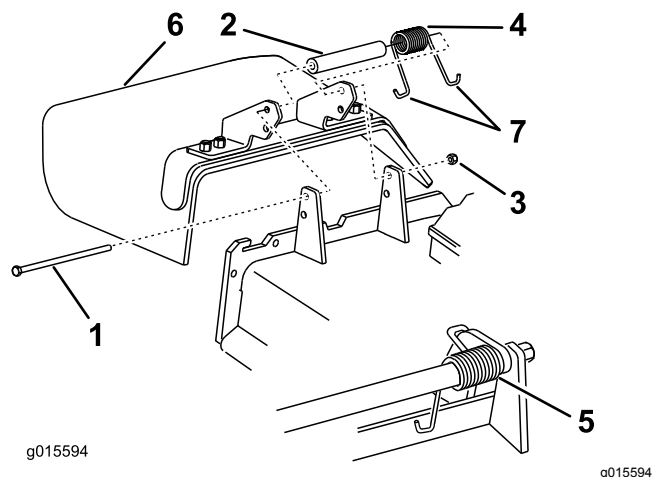

Figure 104
1. Remove the locknut, bolt, spring, and spacer holding the deflector to the pivot brackets (Figure 104). Remove the damaged or worn grass deflector.
Note: Make sure one J end of the spring is installed behind the deck edge before installing the bolt as shown in Figure 104.
3. Install the bolt and the nut. Place one J hook end of the spring around the grass deflector (Figure 104).